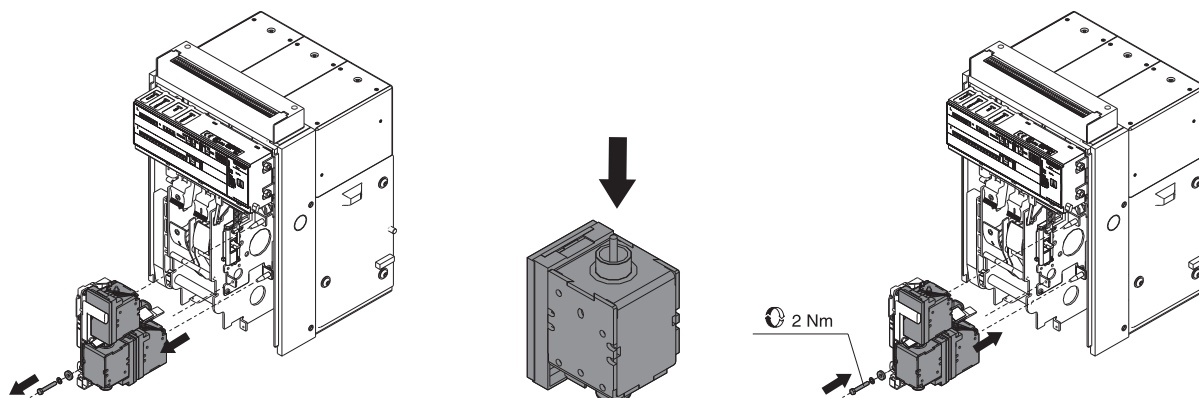

Fig. 36
- Check that the releases (SOR-UVR-SRC) are in good condition (no excessive wear, overheating, breakages) Fig. 36.